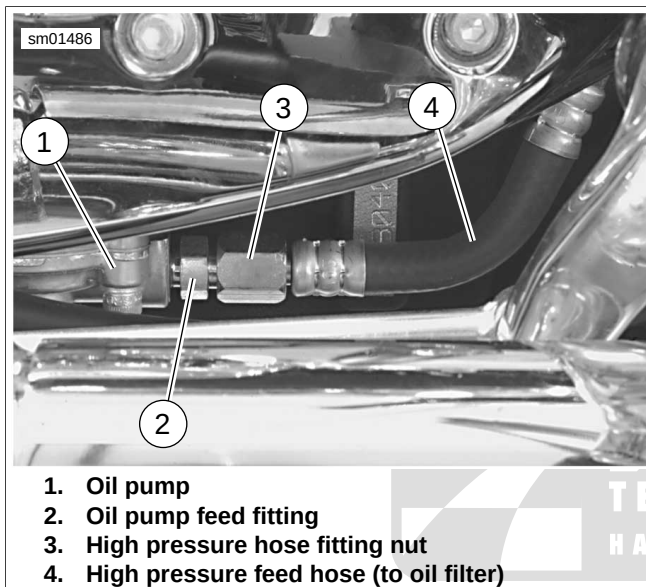

Figure 3-166. Oil Pump Feed Hose
See Figure 3-166. Do not remove oil pump feed fitting (2) from the pump (1). Hold oil pump feed fitting and loosen large high pressure hose fitting nut (3). Then remove high pressure hose (4) from oil pump feed fitting.
2. See Figure 3-166. Remove high pressure feed hose (4) from oil pump (1).
3. Install hoses on oil pump. Attach oil tank feed hose to hose fitting (5) with **new** clamp. Attach oil tank vent hose to elbow fitting (13) with **new** clamp.
4. See Figure 3-166. If oil pump feed fitting (2) was removed for any reason, install fitting in oil pump (1) cover. Tighten to 55-65 **in-lbs** (6.2-7.4 Nm).
5. If high pressure feed hose (4), was removed completely, install end opposite high pressure fitting nut (3) in crankcase. Tighten to 60-90 **in-lbs** (6.8-10.2 Nm).
6. Install high pressure feed hose fitting nut (3) onto feed fitting on front of oil pump. Hold oil pump feed fitting with a wrench and tighten high pressure hose fitting nut to 85-105 **in-lbs** (9.6-11.8 Nm).